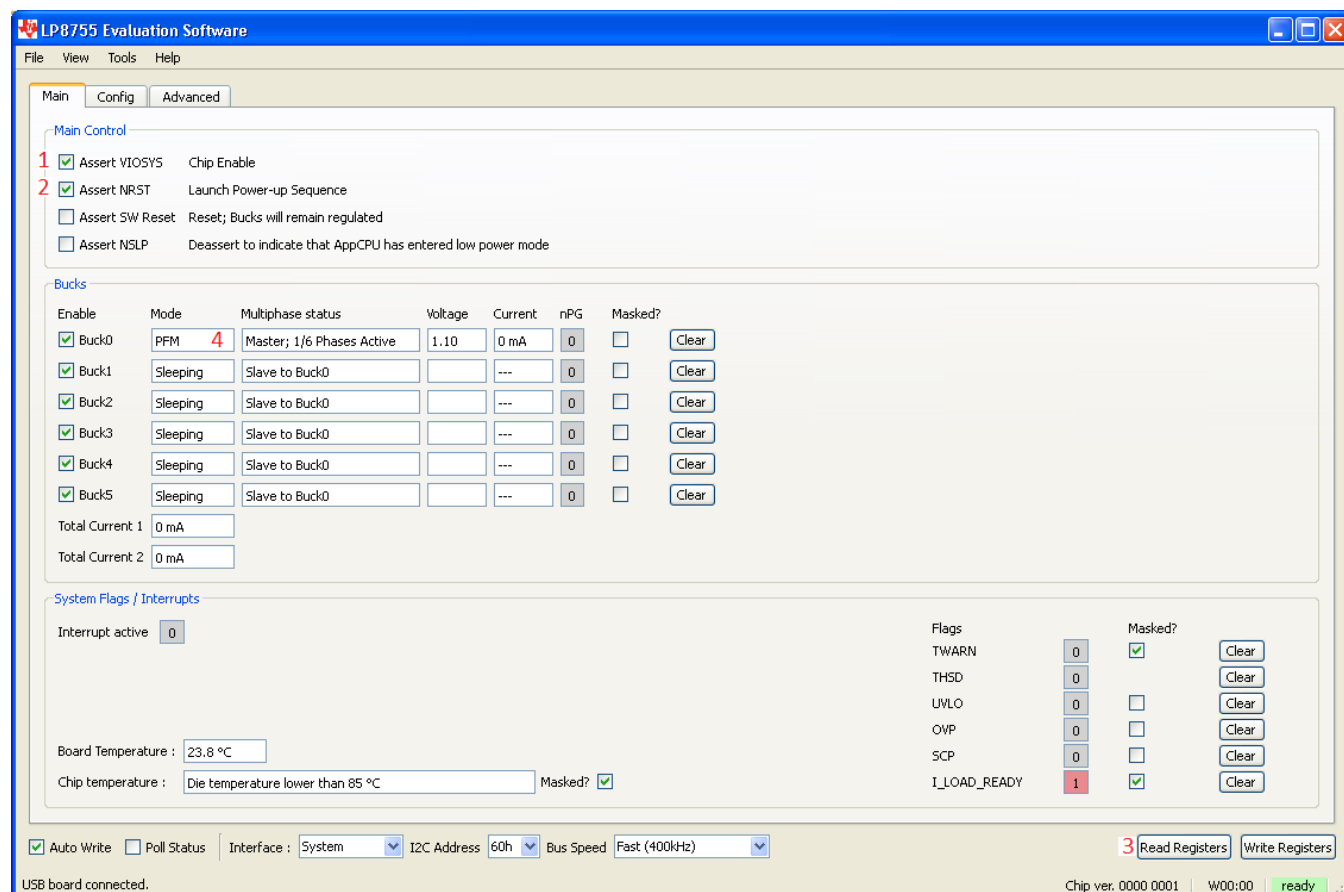

Figure 3. Evaluation Software GUI Showing Steps Needed to Power up the LP8755
1. On Evaluation software GUI, click on Assert VIOSYS. See Figure 3: Marking "1".
2. Click on Assert NRST. See Figure 3: Marking "2".
3. Click on Read Registers button. You should see ready message on green background next to the Read Registers button. See Figure 3: Marking "3".
4. Check that the GUI indicates "PFM" under "Mode" and "Master; 1/6 Phases Active" under "Multiphase" status. See Figure 3: Marking "4". The EVM is now ready for testing with default register settings loaded.